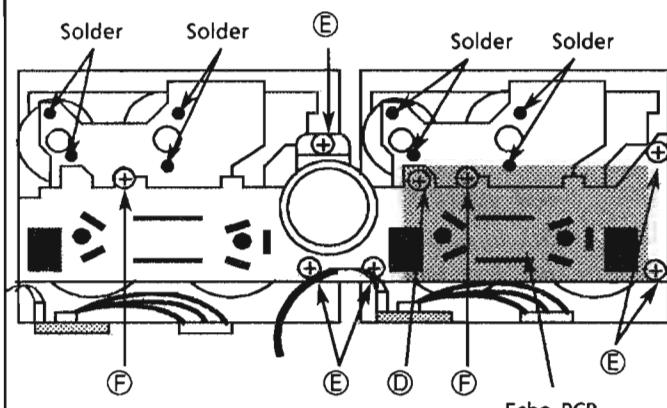

Fig 20
4. Remove the 7 screws Ⓜ, Ⓝ fixing the bracket (Fig 20).
3. Remove the 7 screws ④,⑤ fixing the bracket (Fig 20).
5. Remove the 4 screws ⑥ fixing the reel and cam motor.